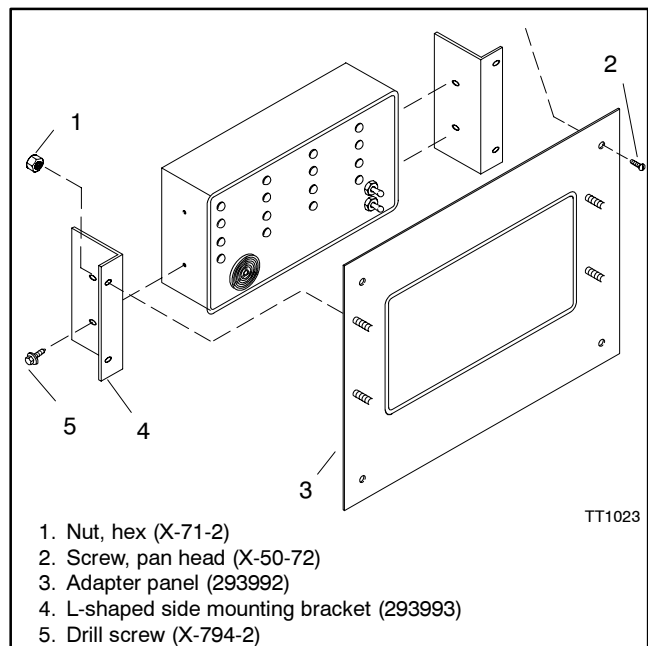

Figure 8 Flush-Mount Remote Annunciator Installation
5.3.2 Attach the L-shaped side mounting brackets (293993) to the back panel using four drill screws (X-794-2). Do not tighten the screws. See Figure 8.